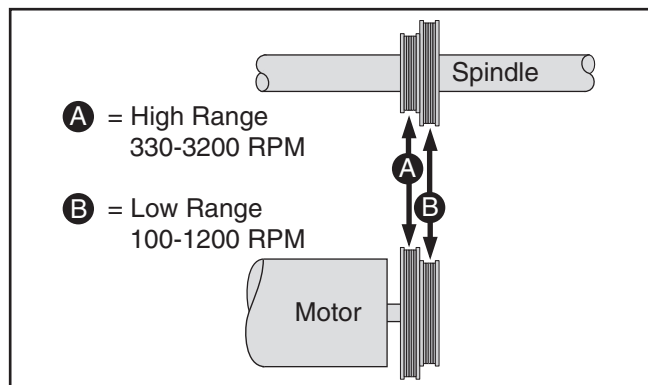

Figure 34. Speed range belt positions.
5. Reach into the belt access cavity and roll the belt onto the desired set of pulleys, as shown in **Figure 34**.